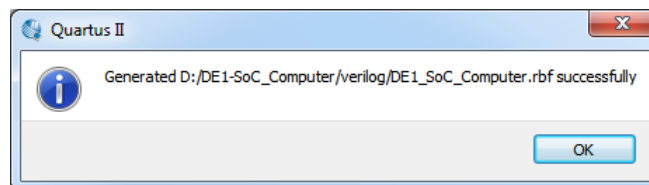

Figure 37. The .rbf file successfully generated.
7. We are now ready to generate the .rbf file. Click `Generate`. If all goes well, you will see the success message shown in Figure 37.